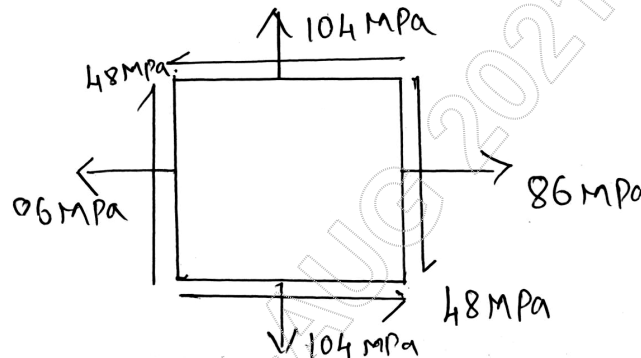

Fig Q4(b)
- b. An element with the stresses acting on it is as shown in Fig Q4(b), Using the Mohr's circle method, determine : i) Principal stresses and orientation of their planes ii) Maximum and minimum shear stresses and orientation of their planes.